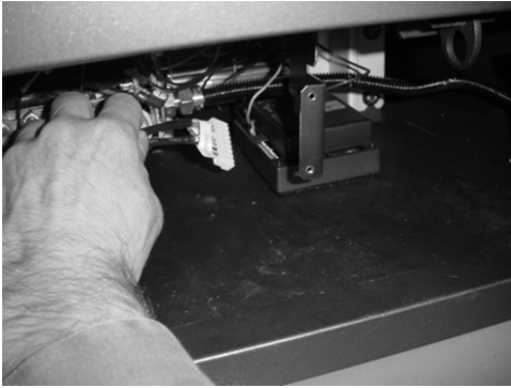
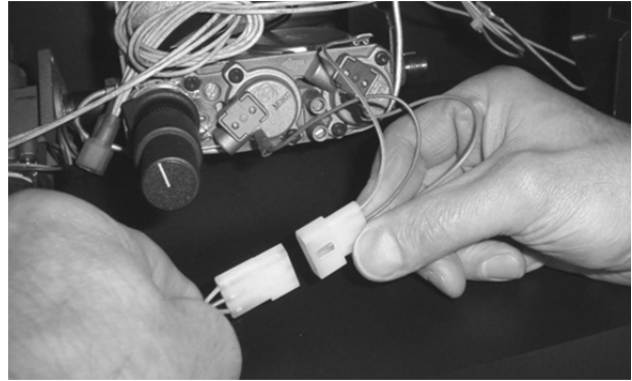

Figure 17
Figure 18
- 12 Attach the wiring harness to the burner control (see Figure 17). Attach the gas control valve moxex connector (see Figure 18).